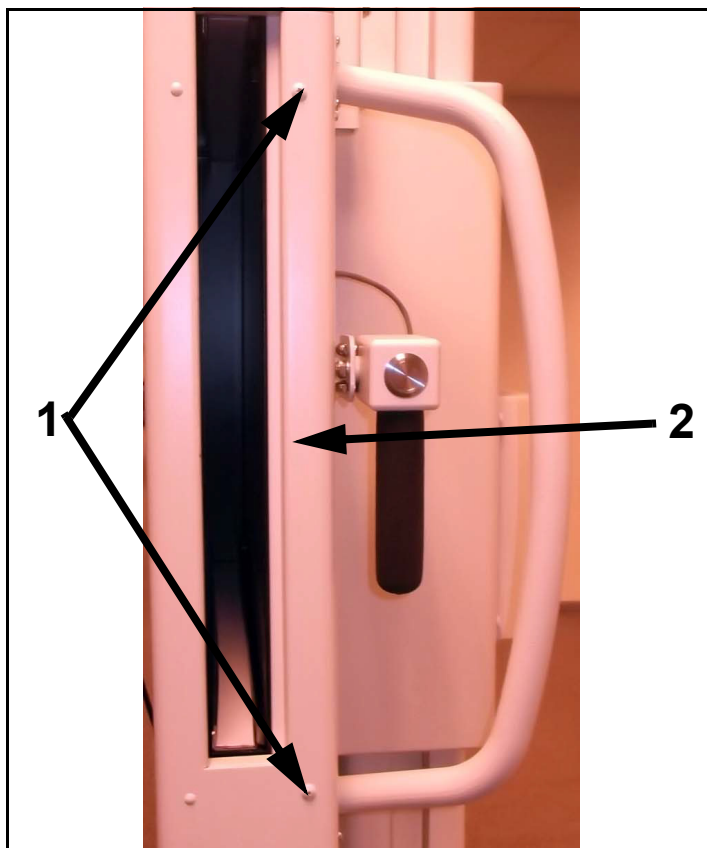

Figure 6-11. Right Side Panel & Front Panel
- 5 Unscrew the two right side cover screws (1 in Figure 6-11) and remove the side cover (2).